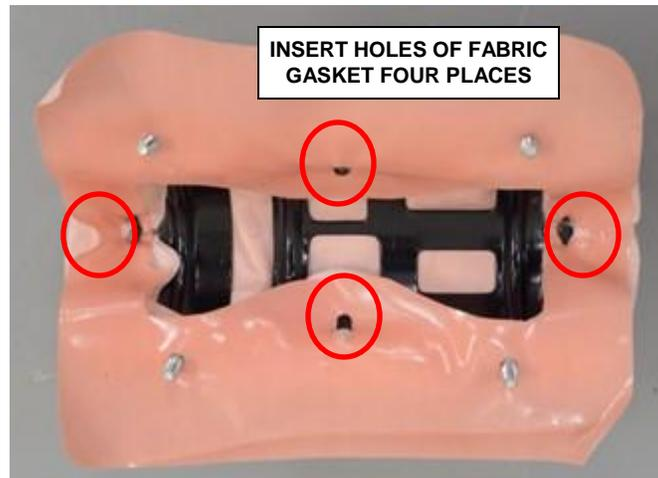

Figure 33 – Fabric Gasket
- g. With the help of a trim tool insert the holes of fabric gasket, four places (Figure 33).